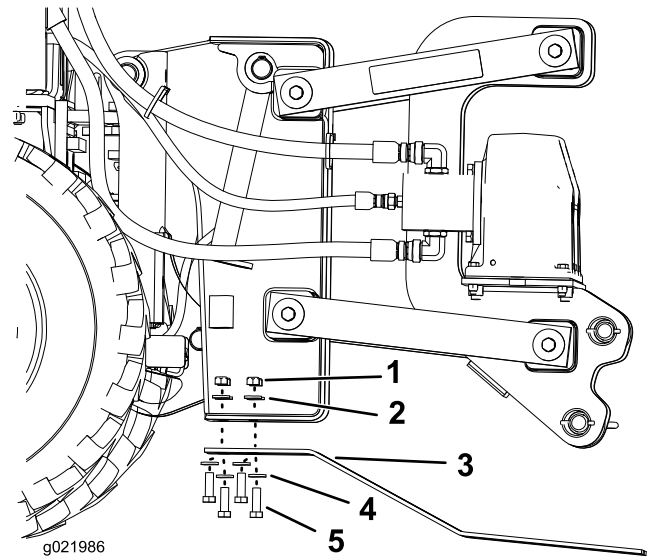

Figure 18
- Remove the 4 bolts, 4 nuts, and 8 washers from the skid shoes (Figure 18).
- Install the new skid shoes and secure them with the previously removed hardware (Figure 18).